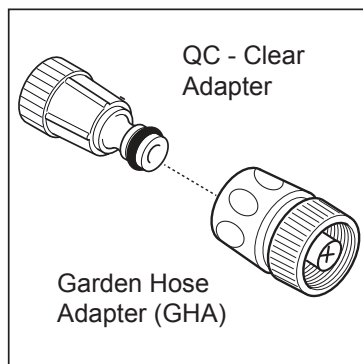

Fig. 10
- The garden hose adapter (GHA) and quick connect filter. Are made up of two separate pieces. (1) A clear plastic adapter with a screen filter (about 3 inches long) and (2) a blue/black collar attachment (**Fig. 10**).